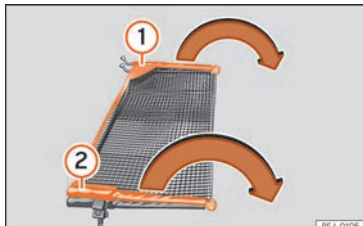

Fig. 135 Deploying the net partition.
Extend the cross rods » **Fig. 135 ①** and **②** of the net in the direction of the arrows until it "clicks".